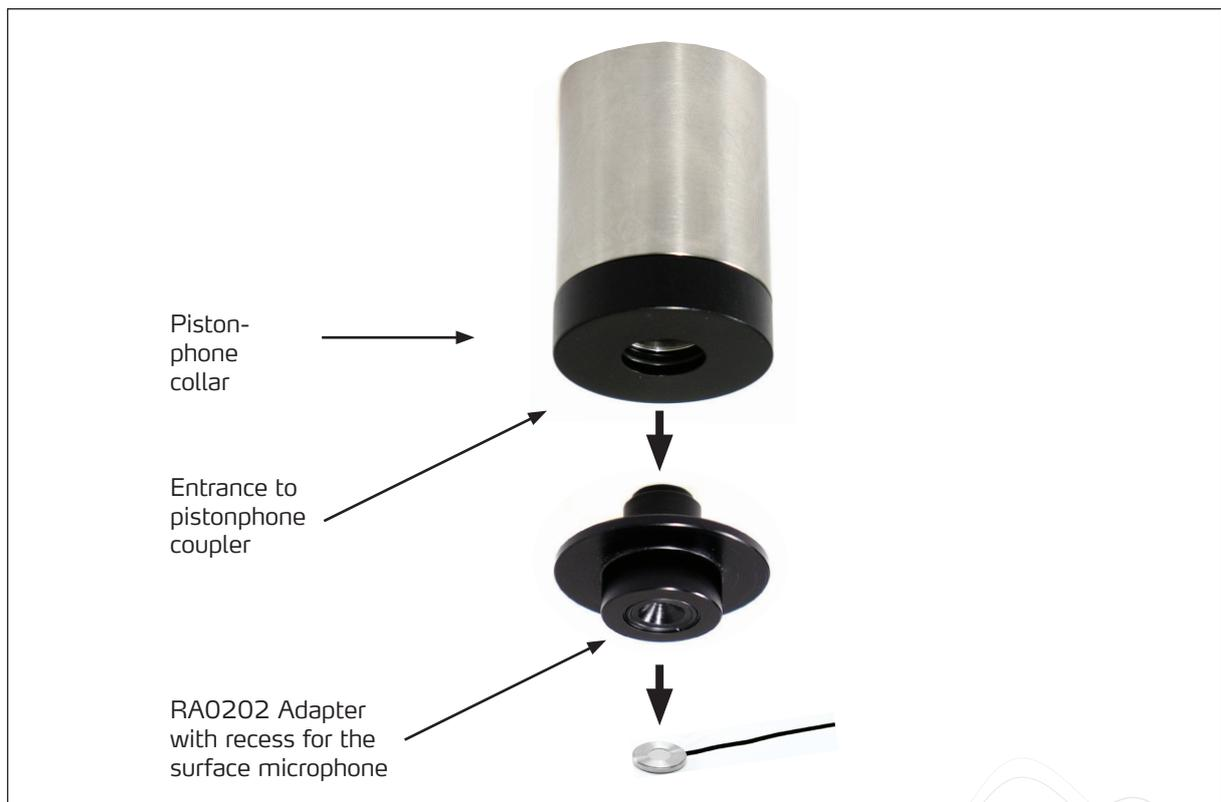

Fig. 10. In-situ verification using a pistonphone.
- For this, the Adapter RA0202 shown in Fig. 10 (available from G.R.A.S.) is required.